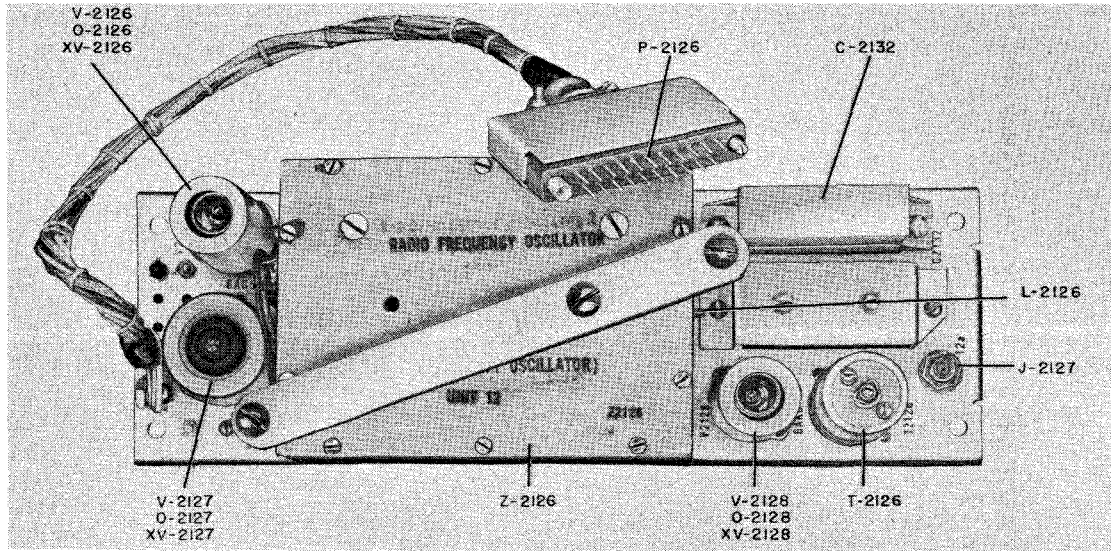

Figure 7-52. RFO, Unit 12 (Z-2127), Top View
*dd.* RADIO FREQUENCY OSCILLATOR, UNIT 12 (Z-2127), TROUBLE SHOOTING.—The radio frequency oscillator (unit 12), figures 7-52 and 7-53, has two outputs. One of these outputs can be checked at the arm of potentiometer R-2916 (figure 7-3) and the other output can be checked by means of the ZERO BEAT INDICATOR when switch (Z) on the RFO front panel is in position F.S. OSC. If there is no unit 12 output, check r-f voltage at jack F.S. OSC. or RFO front panel. Use Multimeter ME-25A/U, or equivalent, with r-f probe; the reading should be approximately 10.0 volts. Use the trouble location diagram, figure
(1) ELECTRICAL ADJUSTMENTS—Four adjustments may be made when aligning unit 12. Two are located on unit 12 (Z-2126 and T-2126) (figure 7-52), and two are screwdriver adjustments on the RFO front panel (figure 7-3), F.S.O. ZERO ADJ. (R-2916) and F.S.O. RANGE ADJ. (R-2919).
If a 1:1 Lissajous pattern cannot be obtained by adjusting F.S.O. ZERO ADJ., pull the radio frequency oscillator (RFO) drawer out, bypass the interlock, and adjust L-2126 (located on the left side of unit 12; see figure 7-52) for a 1:1 Lissajous pattern on the oscilloscope. L-2126 is the coarse adjustment and